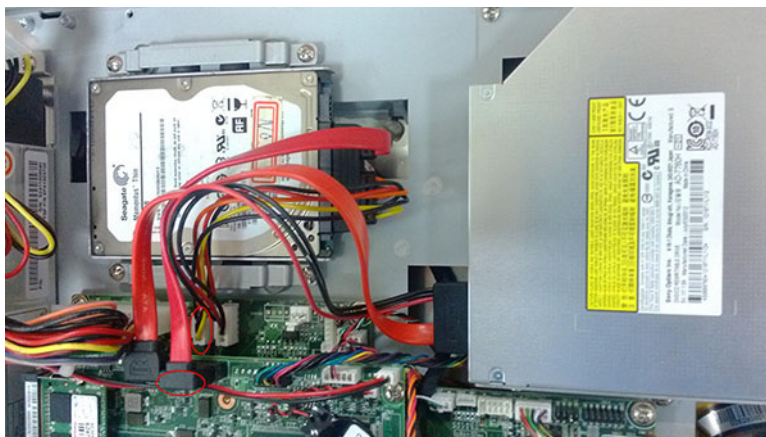

Figure 2.18
6. Connect HDD cable to the mainboard. (See Fig 2.18).